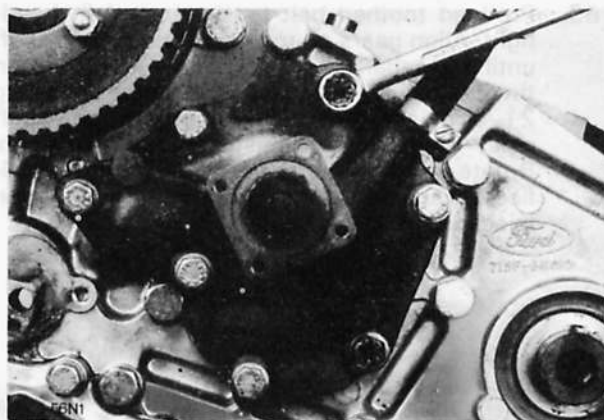

Fig. 81. Fit water pump
57. Fit water pump with new gasket to intermediate plate, Fig. 81.